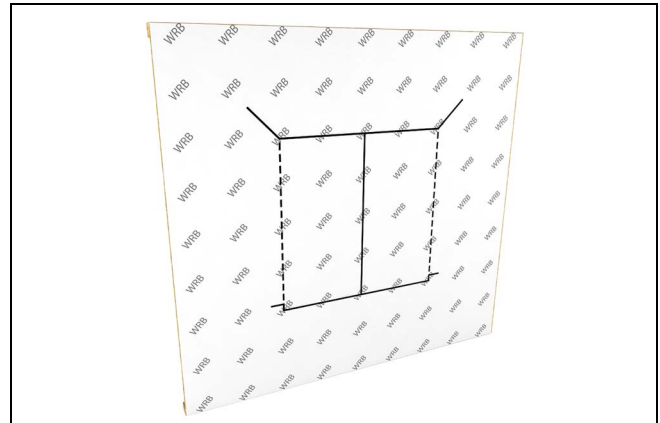

Figure 3
3. Make a vertical cut down the center of the RO. Then make a 45 degree cuts away from the corners of the top of the RO. See Figure 3